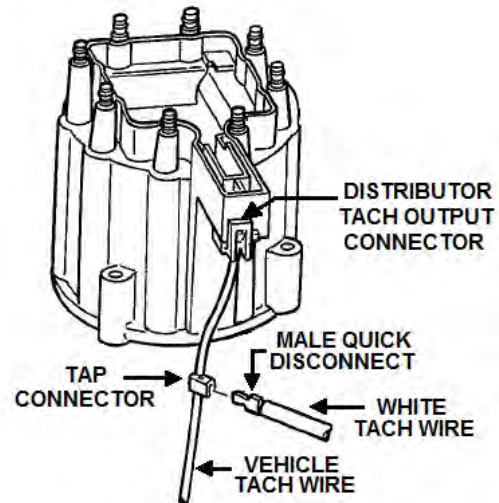

Figure 17: GM HEI Ignition Tach Signal Connection
4. If you are operating a GM HEI ignition, connect the white wire to the terminal labeled "TACH" underneath the dust cover of the HEI Distributor Cap with a female quick-disconnect terminal (Fig. 17).